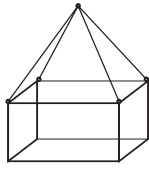

Fig. 1:
- Lift with the crane at all 4 eye bolts simultaneously (as depicted in Fig. 1).
- e.g. **(C1)** means: Item C / Figure 1 in the respective chapter
- e.g. **(Sect. 3, C1)** means: in Chapter 3 Item C / Figure 1